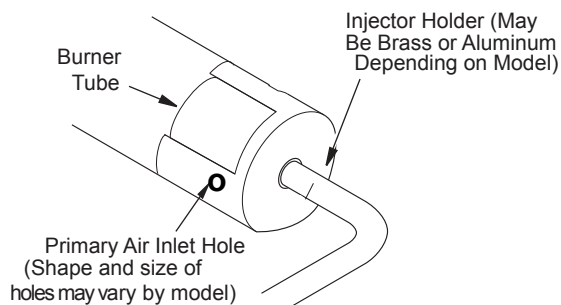

Figure 23 - Injector Holder On Outlet Burner Tube
Figure 23 shows correct burner flame pattern. Figure 24 shows incorrect burner flame patterns. The incorrect burner flame patterns show sporadic, irregular flame tipping. The flame should not be dark or have an orange/reddish tinge.
If burner flame pattern is incorrect, as shown in Figure 23, you should
2. Inspect burner, pilot, and primary air inlet holes on injector holder for dust and dirt (see Figures 23 and 24).
Clean the pilot assembly also. A yellow tip on the pilot flame indicates dust and dirt in the pilot assembly. There is a small pilot air inlet hole about two inches from where the pilot flame comes out of the pilot assembly (see Figure 23). With the unit off, lightly blow air through the air inlet hole. You may blow through a drinking straw if compressed air is not available.